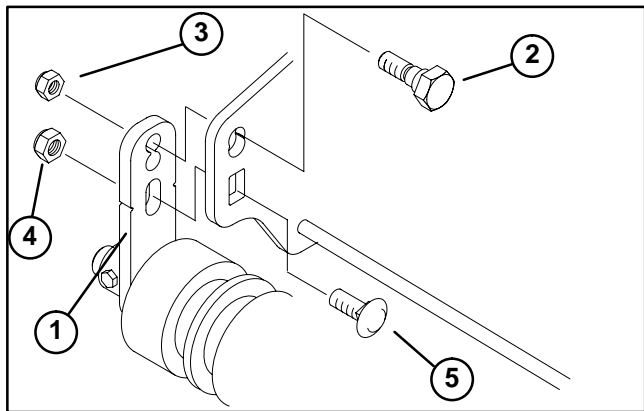

Figure 31
**Note:** The top of the right front bracket is secured to the frame with an eccentric bolt, while the left front bracket is secured with a shoulder bolt (Fig. 31).
A. Insert eccentric bolt (shoulder bolt) through one of the two positions in the figure 8 hole in the frame and one of the top holes of the front bracket (Fig. 31) so the point on the bracket is at the desired position.